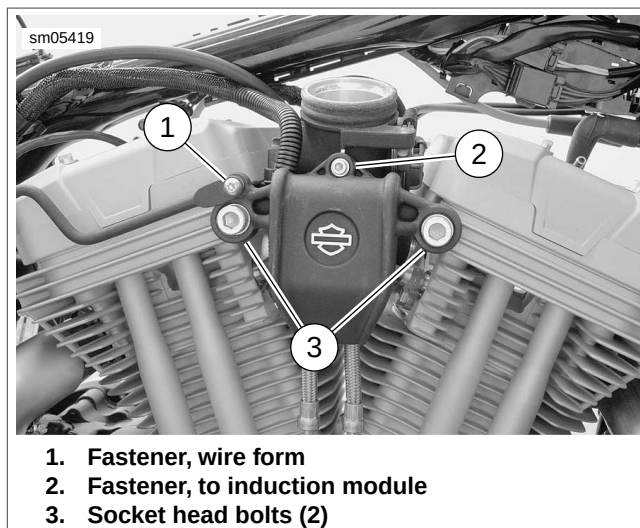

Figure 4-63. Induction Module Cover
2. See Figure 4-63. Remove socket head bolts (3), fastener (1) and fastener (2).
5. See Figure 4-63. Rotate induction module cover into place between cylinder heads. Install fasteners (1, 2, 3) finger tight.
6. Tighten socket head bolts (3) to 20-24 ft-lbs (27.1-32.5 Nm). Tighten fastener (2) to 84-108 **in-lbs** (9.5-12.2 Nm). Tighten fastener (1) to 84-108 **in-lbs** (9.5-12.2 Nm).